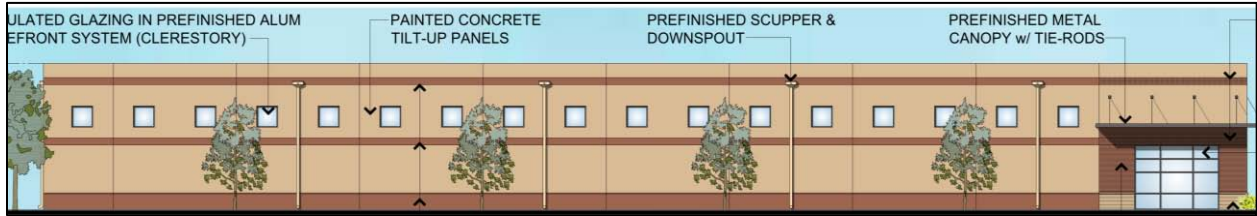

Figure 2: Exterior Elevation
The applicant is proposing two twenty-eight (28) foot one-story structures similar in height and scale with other existing structures within the development. Concrete tilt-up panels will be used with exterior elevations banded with complementary colors which visually reduce the overall height of the building. Example of the banding can be seen above in Figure 2. The interior of the elevations will utilize masonry bases and brick veneer in addition to the tilt-up concrete design. Figure 3 below represents the proposed interior elevation. The office corner in the lower right hand of Figure 2 indicates that the brick and masonry element is planned to wrap to the northern elevation signifying the entrance/office element of this planned structure. Mechanical equipment will be roof mounted and will be screened by a parapet.